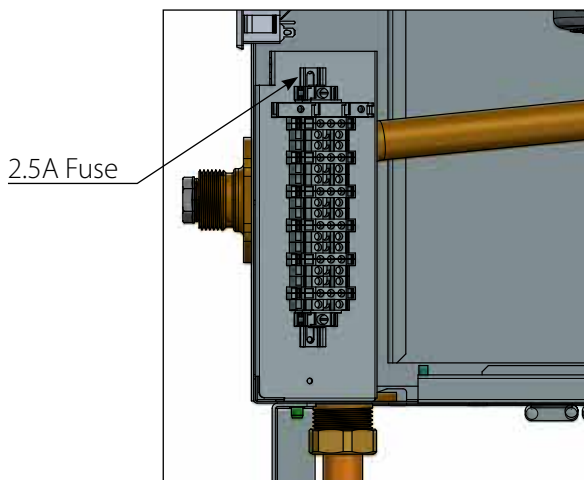

Fig. 31 - Terminal Strip Location
- A 2.5A fuse is also located on the terminal strip, to protect the output. Refer to *Fig. 31*.
1. Connect a dedicated 120 VAC/15A service to the line voltage terminals located internally in the lower left corner, as shown in Fig. 31 below.
2. Connect the CH1 & CH2 circulator wiring to the respective line voltage terminals located internally in the lower left corner, as shown in Fig. 31 on the left. This circulator is typically used to supply heat to the central/space heating loop.
3. Connect the DHW circulator wiring to the line voltage terminals located internally in the lower left corner, as shown in Fig. 31 on the left. This circulator is typically used to supply heat to an indirect hot water heater.
4. The boiler pump is factory wired to the line voltage terminal as shown in Fig. 31 on the left.